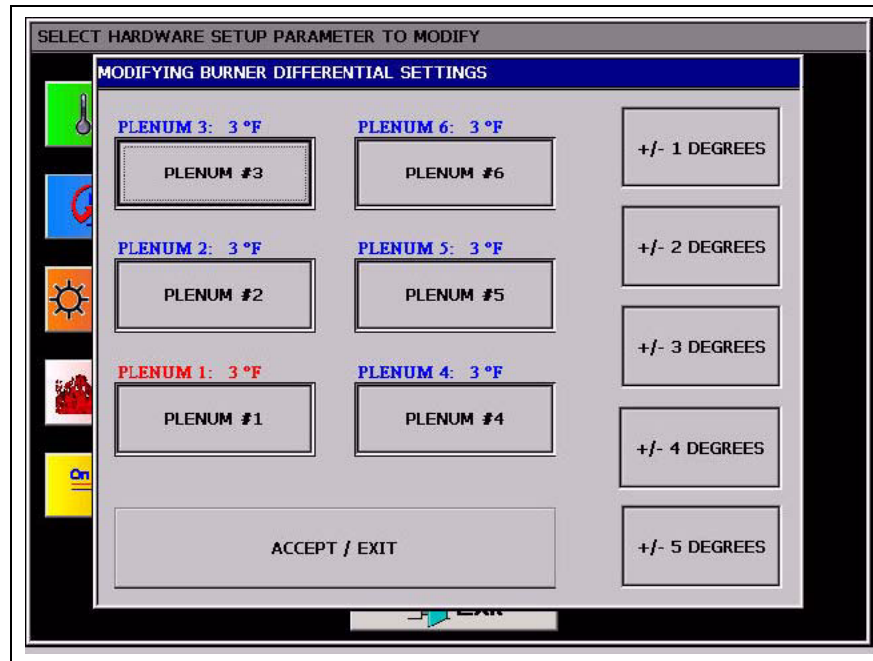

Figure 6K
2. **Differential:** Touching the Differential button will display the Modify Burner Differential Settings screen. (See Figure 6K.) Adjusting the burner differential settings allows the operator to keep the plenum temperature within a certain range. For example: If you have the temperature set point at 180° and you select $\pm 3^\circ$ as the burner differential, then the burner will switch to low heat at 183° and back to high heat at 177°. To modify a burner differential setting first touch the Plenum button you wish to modify, then select one of the five (5) differential setting button on the right side of the Modifying Burner Differential Settings screen. Touch the Accept/Exit button to save settings and return to the Select Hardware Setup Parameter to Modify screen. **NOTE:** *Tower dryer only have plenum #1.*